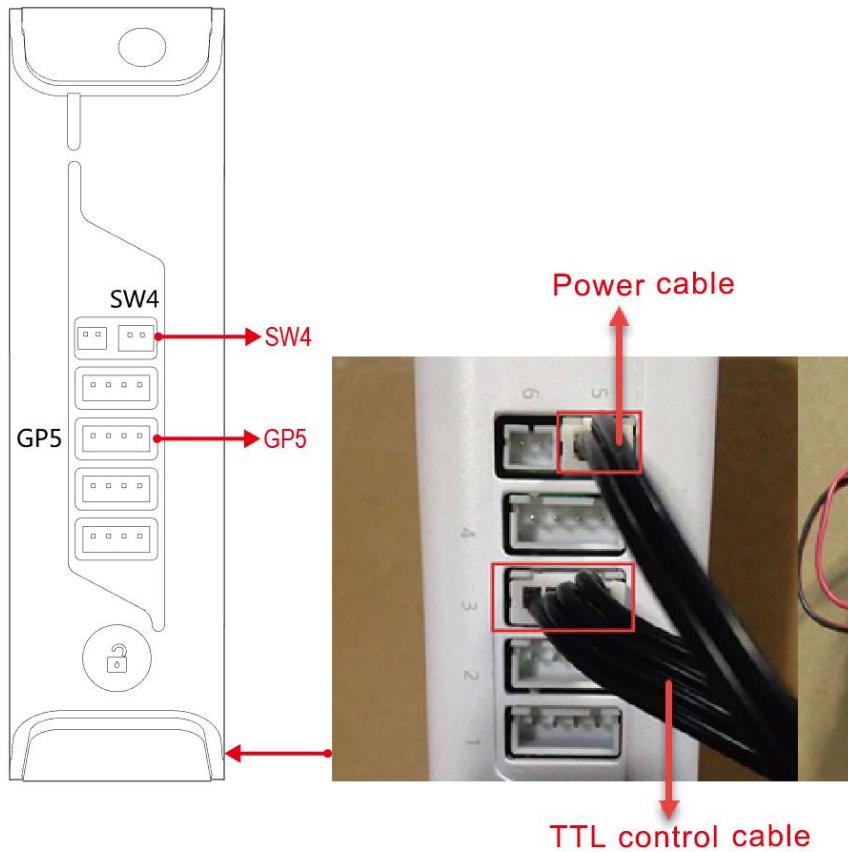

Figure 5.61 Connect the laser to the SW4 and GP5 connectors
Step 2 Connect the laser's power cable to the **SW4** connector on the Forearm and the TTL control cable to the **GP5** connector, as shown in Figure 5.61.